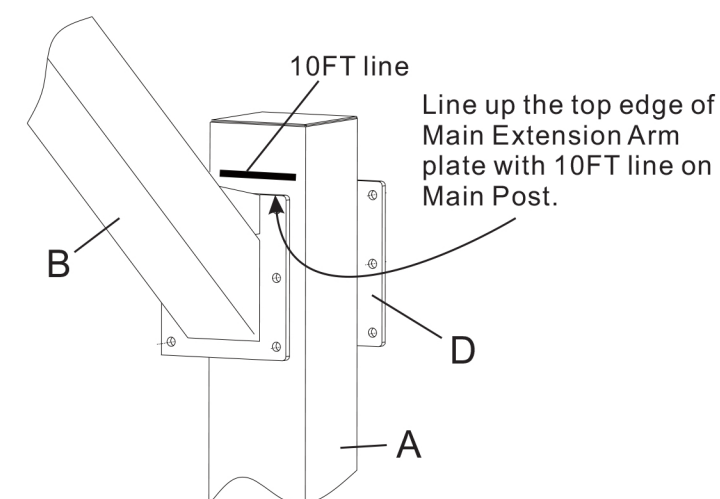

FIGURE 3A
- Position the Main Extension Arm (B) to the Line on Main post (A) as shown in Figure 3A.